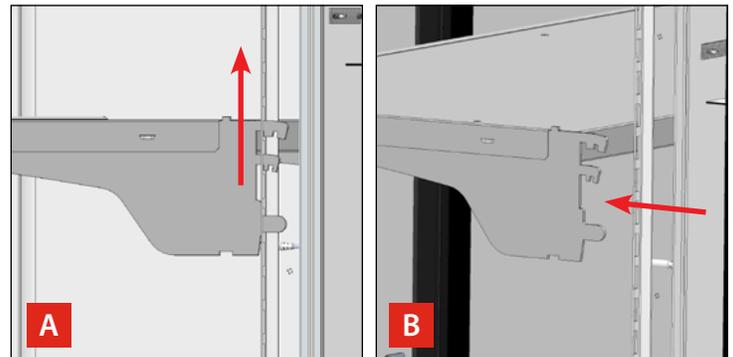

Fig. 20. Lift the shelf assembly (A) and pull it forward (B).
2. Lift a shelf assembly and then pull the shelf assembly forward. See fig. 20.